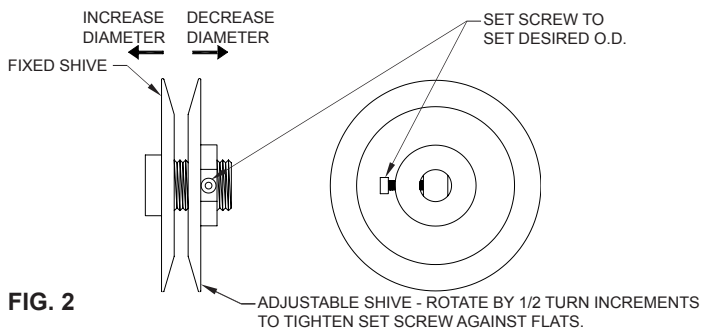

FIG. 2
3. Loosen pulley adjustment set screw on motor pulley and screw adjustable shive out away from fixed shive. Tighten set screw onto flat of fixed screw (See **FIG. 2**).